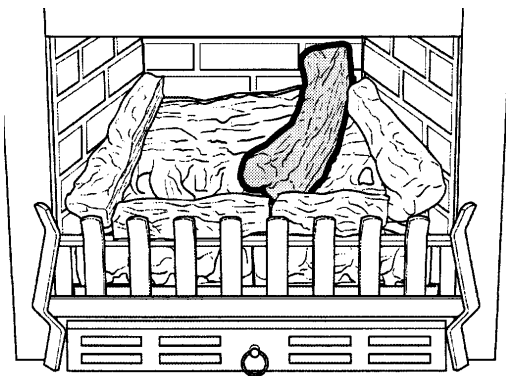

Figure 15 "D" log position
- Take the 'D' log and position on top of the fuel matrix as shown in figure 15. Ensure that the log sits flat on the fuel matrix. When positioned correctly, the log should be in contact with both the rear wall and the front 'B' log.